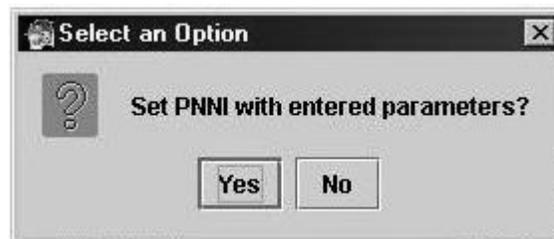

Figure 8-6: Confirm Add New Nodal Connection Dialog
12. Click **APPLY**. The Select an Option dialog displays. See Figure 8-6.